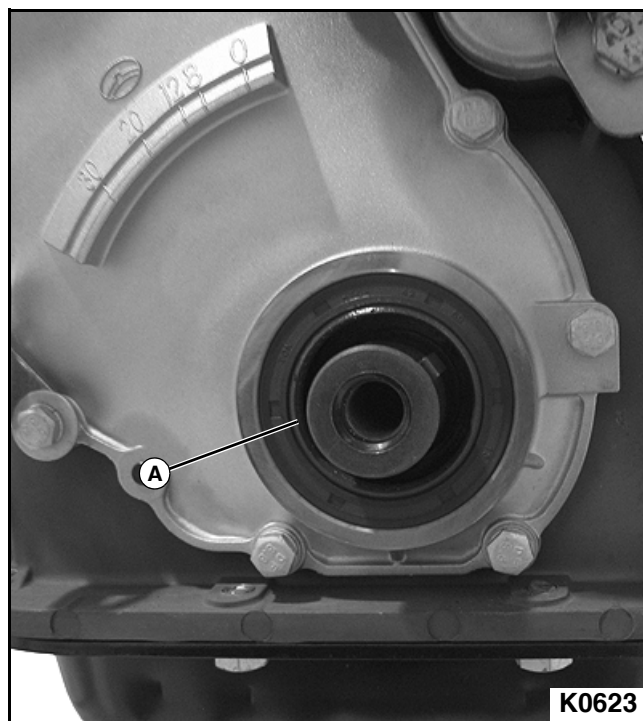

Figure 3-86
1. Lubricate front crankshaft seal lip (A) and sealing surface of crankshaft vibration dampener with clean engine oil. **See Figure 3-86.**